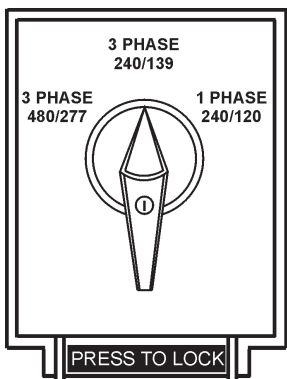

Figure 19. Voltage Selector Switch 3Ø-240/139V Position
1. Place the voltage selector switch in the 3Ø 240/139 position as shown in Figure 19..